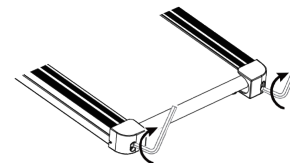

Figure 3
2. Using the hex tool, turn both idler roller screws clockwise 1/2 of turn (refer to figure 3).